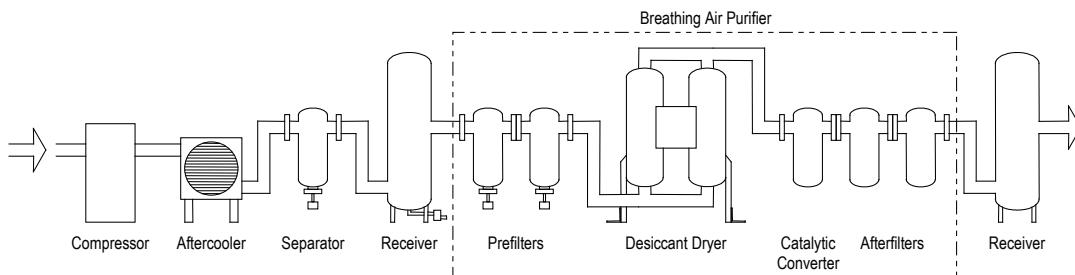

Figure 4-1
**NOTE:** The air compressor should be adequately sized to handle air system demands as well as purge loss. Failure to take this into account could result in overloading air compressors and/or insufficient air supply downstream. It is desirable to install the Breathing Air Purifier where the compressed air is at the lowest possible temperature (downstream of aftercoolers) and the highest possible pressure (upstream of pressure reducing valves) without exceeding the maximum operating pressure of the equipment. (Refer to Figure 4-1)